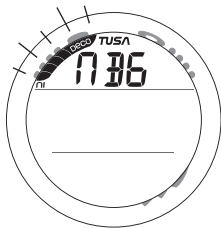

Fig. 43 - SET NiBG ALARM
**SET NiBG ALARM**, information includes (Fig. 43):